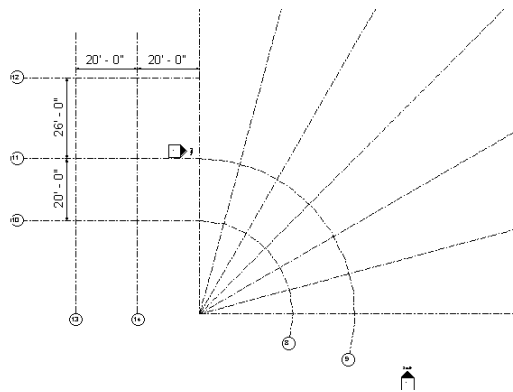

Figure 3-61 The dimensions of the remaining grid lines
21. To complete the grid pattern for the project, invoke the **Grid** tool and use the **Line** tool from the list box in the **Draw** panel of the **Modify | Place Grid** tab; the remaining grids are created with the specified distance, as shown in Figure 3-61.